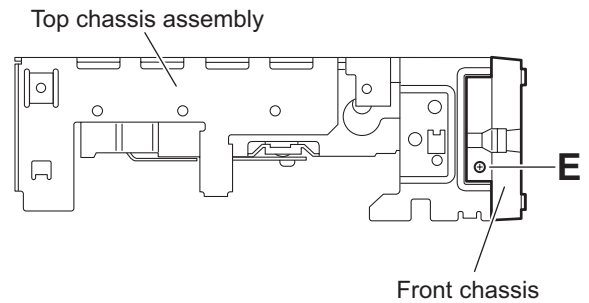

Fig.7
3.1.4 Removing the front chassis (See Figs.7 and 8)